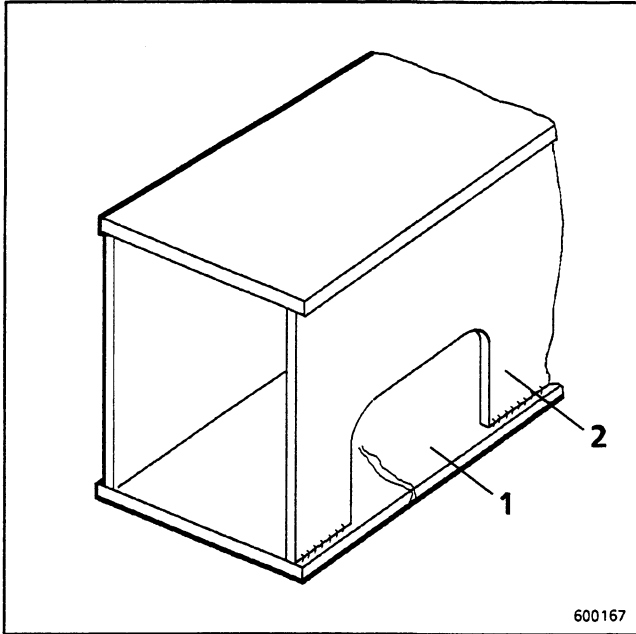

Fig. 57
1. At the web-plate (2, figs. 57 + 58), chamfer the edges to be welded with approximately 10° . Width b of the chamfer in relation to the plate thickness can be seen in fig. 70, page 42.